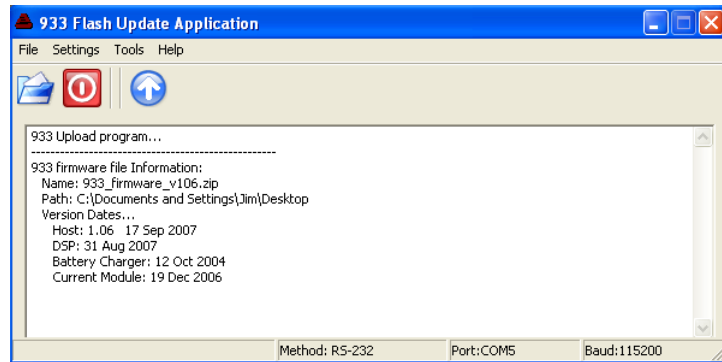

Figure B.2: File Information for Newly Extracted Firmware
7. Click the Open button or select File > Open. Browse to locate the zipped firmware that you downloaded, select the file and click Open. The uploader should automatically extract the zipped file ready for upload to the 933A. The uploader window should appear as in Figure B.2 and provide the firmware information.